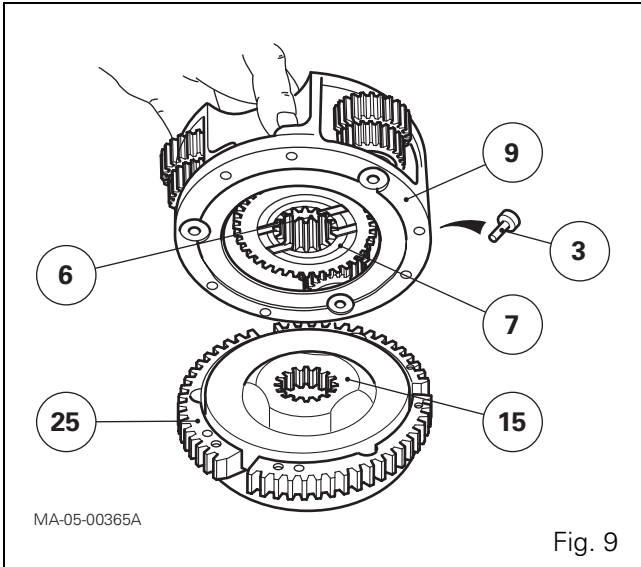

Fig. 9
- 17.** Put the planet carrier assembly on a workbench with the unit (9) turned upwards.
- 18.** Remove the screws (3).
- 19.** Separate the unit (9) from the hydraulic cover plate (25) while holding sun gears (6) and (7) (Fig. 9).
47. Install the splined hub (15) as shown in Fig. 9.
48. Install an intermediate plate (30), a disc (42) and a spring washer (43). Continue stacking parts, ending with an intermediate plate.
49. Screw two diametrically opposed guide studs in the hydraulic cover plate (25).
50. Assemble the planet carrier unit (9) on the hydraulic cover plate (25) while holding the sun gears (6) and (7) (Fig. 9).